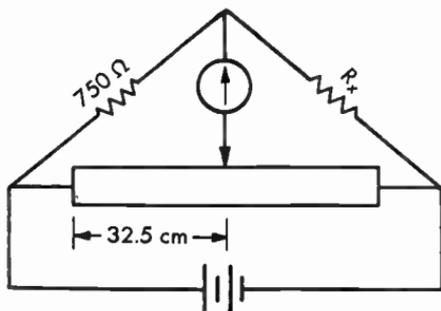

Fig. 12.02 Slide-wire bridge, consisting of a sliding arm making contact with a wire one meter long.
12.02 The slide-wire bridge of Figure 12.02 has a total length of 1 meter. Calculate R_x for the values indicated in Figure 12.02.